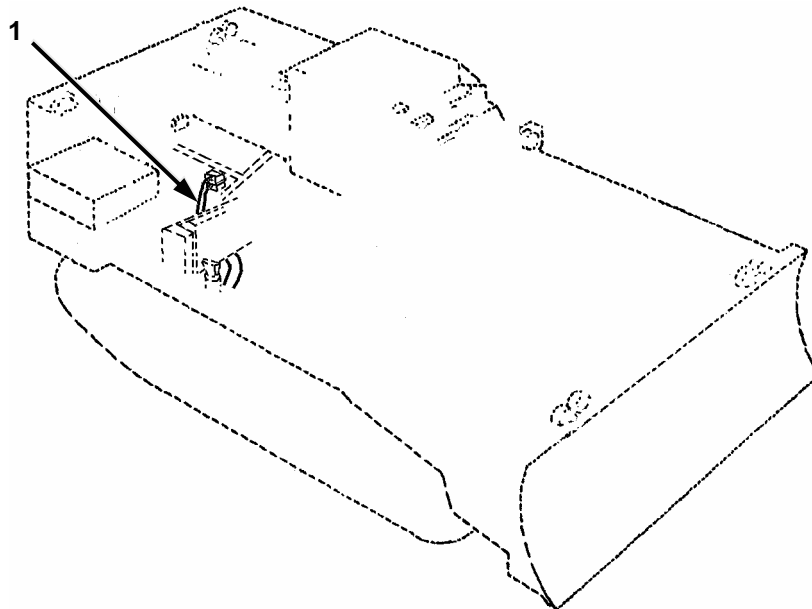

Figure 2-43. Blade Folder Hoses.
20. Install ejector panel (3) to hull with four screws (4) retained from step 10.
- a. Install two blade folder hoses 12491616-4 (Figure 2-43, 1) to top and bottom flow valves, port 2, and route under radiator and up in front of radiator next to muffler plate.